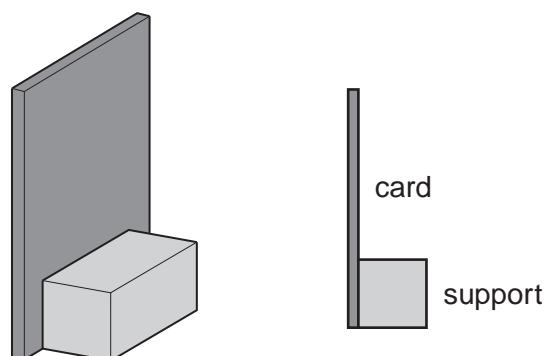

Fig. 4.3
- (iv) Screen. A sheet of stiff white card approximately 150 mm × 150 mm, fixed to a wooden support, is suitable, as shown in Fig. 4.3.